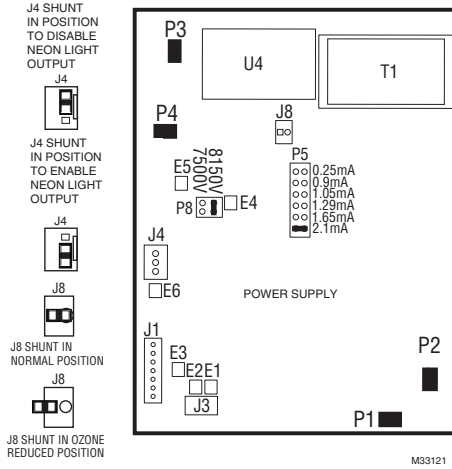

Fig. 18. Components of replacement power supply.
⚠ FOR UNITS WITH NEON LIGHT CONNECTED TO E5 AND P6. REMOVE SHUNT FROM CONNECTOR J4. SEE COMPONENTS OF REPLACEMENT POWER SUPPLY FIGURE 18.
- d. Locate J8 Shorting Bar on the power supply. See Fig. 18. Remove the shorting bar and reinstall on only one pin.